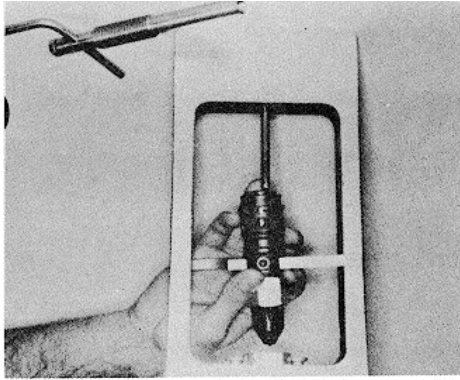

Fig. 6-1-33, F60195. Installing retainer wrench on injector
11. Lubricate threads of 3375103 stud and screw in 3375084 Loading Fixture stand far enough to hold injector (Fig. 6-1-33).